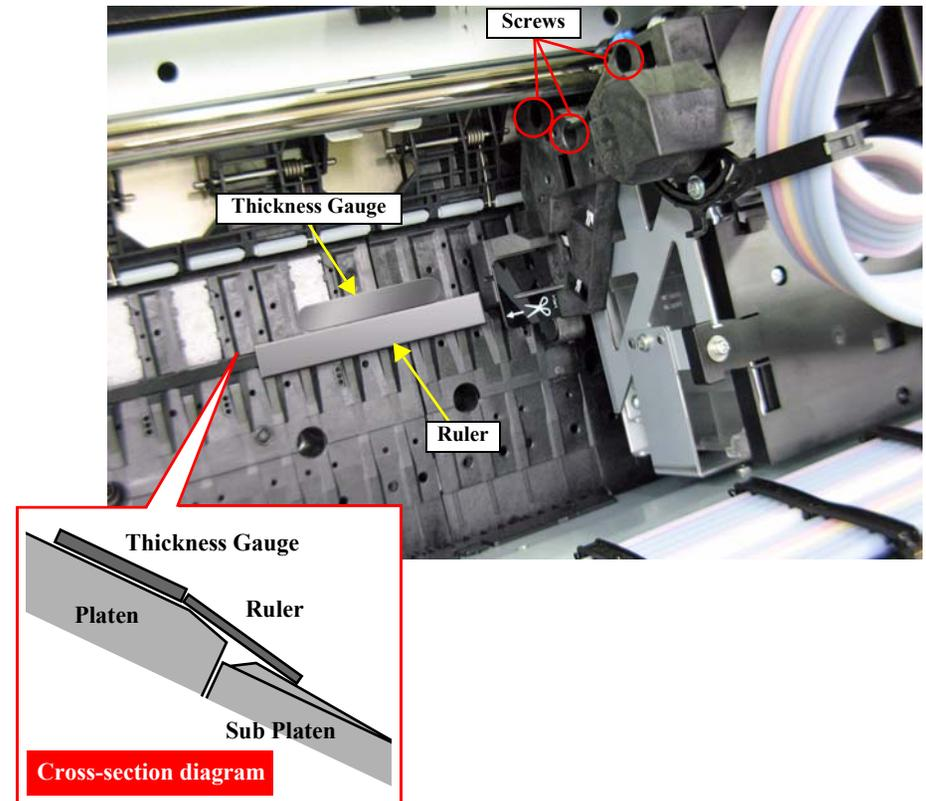

Figure 5-60. Position for the ruler and gauge
6. Secure the ruler with the double-sided tape on the position shown in Figure 5-60.
7. Place the thickness gauge on the ruler. See Figure 5-60 for the position.